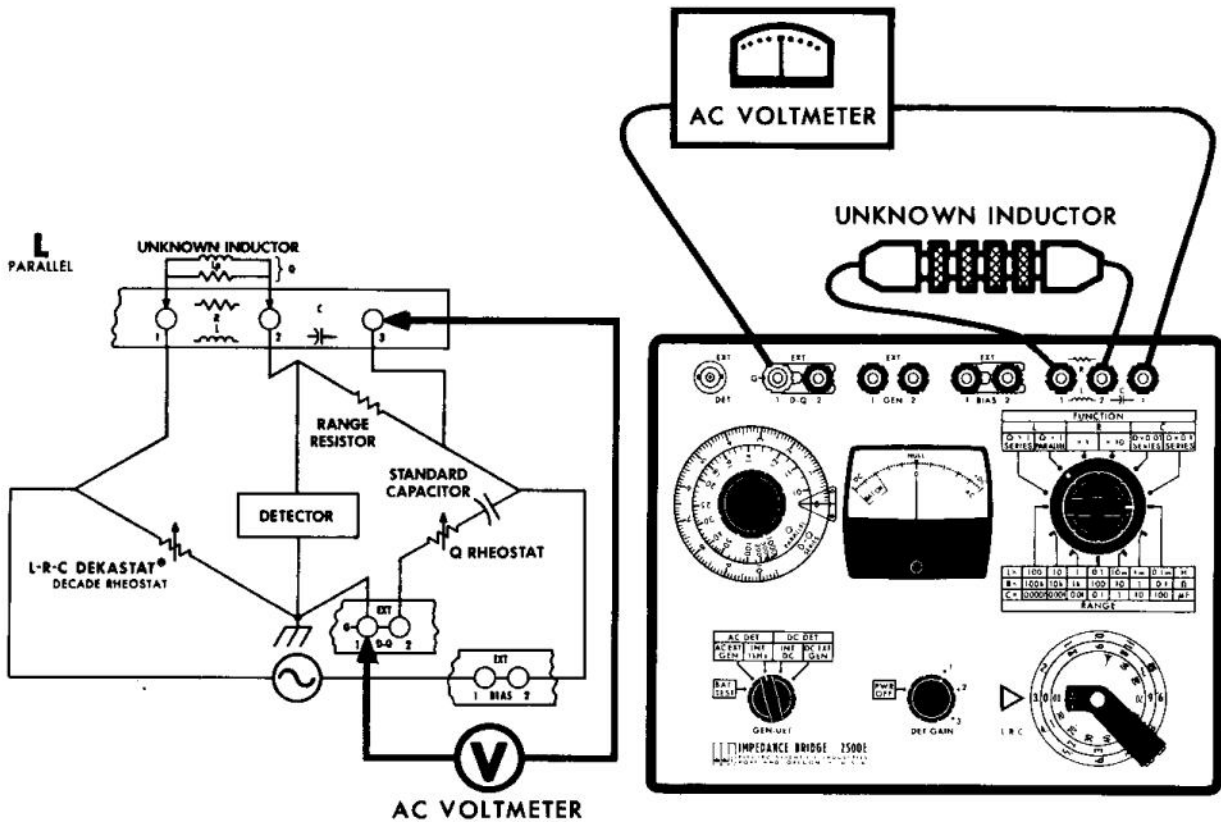

Figure 5-8. Current Measurement
1. Connect the ground terminal of the voltmeter to EXT D-Q terminal 1 and the other voltmeter terminal to C terminal 3 (see Figure 5-8).